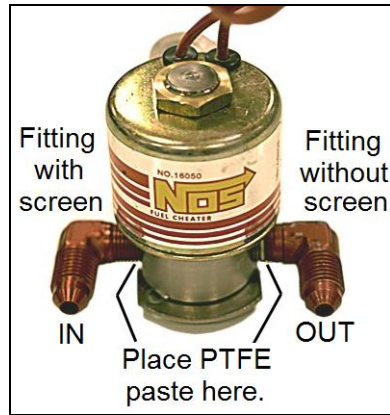

Figure 8
2. Apply a small amount of PTFE thread sealant to the NPT threads of the **nitrous outlet fitting** and insert into the **OUT** side of the nitrous solenoid. In a vice, tighten at least 1-1/2 turns after finger tight. (**Figure 8**)